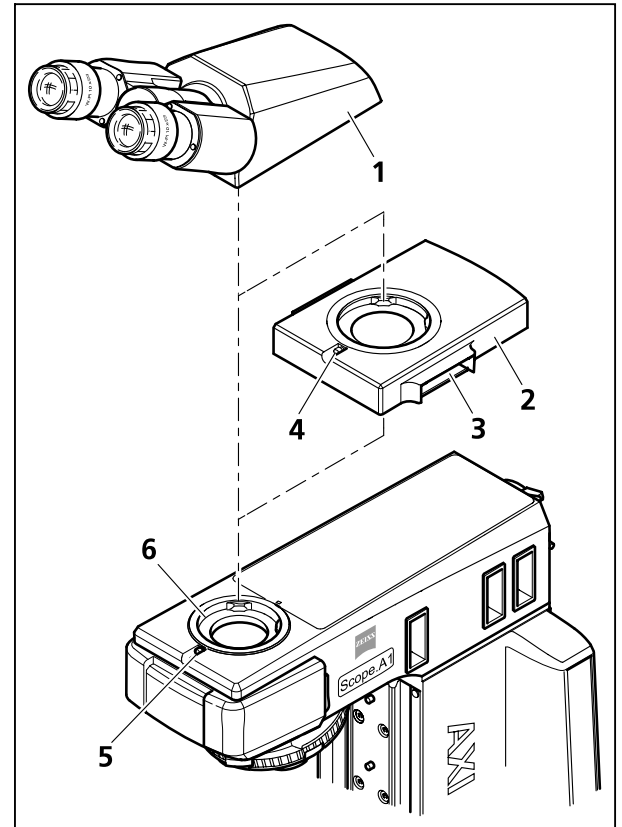

Fig. 3-40 Mounting the binocular tube
- Loosen the hexagon socket screw (Fig. 3-40/5) with the ball head screwdriver SW 3 and lift off the tube (Fig. 3-40/1).
- Insert the intermediate plate (Fig. 3-40/2) with the dovetail ring into the stand socket (Fig. 3-40/6), adjust it, then fixate it with the hexagon socket screw (Fig. 3-40/4).
- Insert the analyzer slider into the slider receptacle (Fig. 3-40/3) if applicable.
- Slightly incline the binocular tube (Fig. 3-40/1) when inserting it into the intermediate plate, adjust it and fixate it with the hexagon socket screw (Fig. 3-40/4).